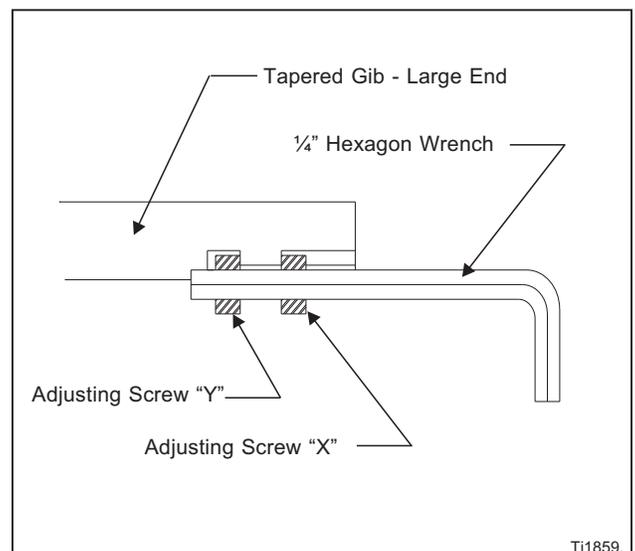

Figure 2.11 - Gib Adjustment Illustration
2. Insert 1/4" hex wrench through screw "X" and into screw "Y", Figure 2.11 .